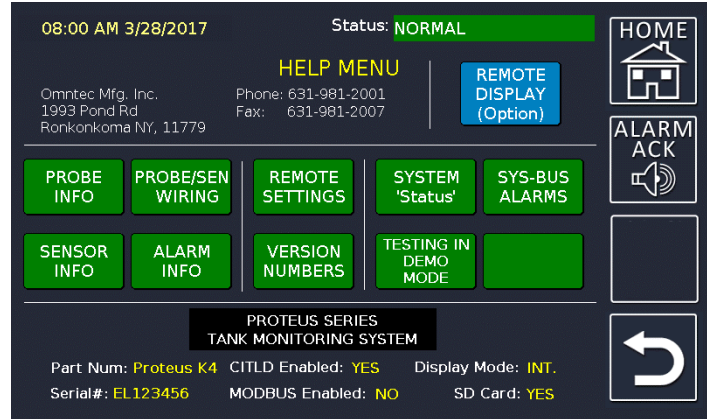

Figure 7.3.1
Used to view Probe and Sensor Info, Probe and Sensor Wiring Diagrams, Alarm Info Remote Settings, Version Numbers, System Status, Remote Display Info, System Bus Alarms Info, Modbus, CITLD, SD card status, and unit serial (EL) number. (Figure 7.3.1)